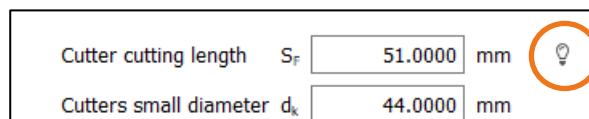

Figure 30. Inputting palloid cutter data
9. The «**Face hobbing (continuing indexing method)**» manufacturing process is already selected in the «**Process**» tab. Input the «Cutter cutting length» and «Cutters small diameter» tool data. Click the information button to display a table that lists the standard palloid cutters.  However, you can also input data for special milling cutters (see Figure 30).